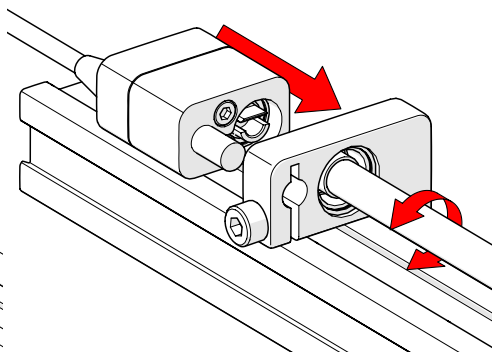

Fig. 61 - Align and mount post
2. Insert the encoder post in the index encoder support bracket while aligning the leadscrew shaft with the encoder socket (Fig. 61).